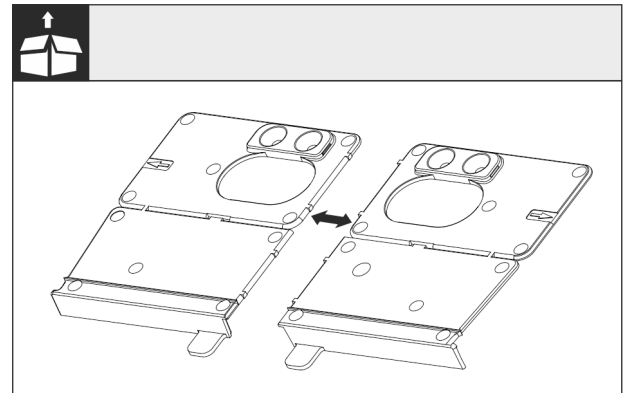

Fig. 25
- ▶ Separate the floor mounting bracket Fig. 25 ( ) at the perforation.